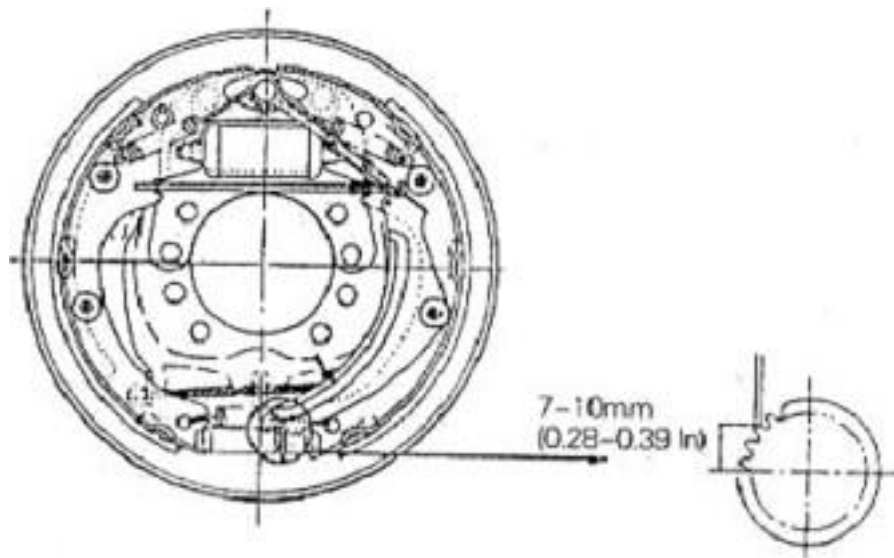
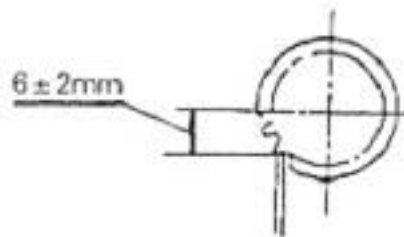

Fig 6-23
Fig 6-24
(2) In the case when adjusting lever is pulled, and the adjuster cannot do the abovementioned action, the following items shall be examined:
- b) Examine whether or not the relationship in arrangement between adjusting lever and adjusting gear is correct. Refer to Fig 6-23 (3.0-3.5t), Fig 6-24 (1-1.8t and 2.0-2.5t), and replace the parts if not satisfactory. In addition, examine whether or not lever and gear are in contact with each other.